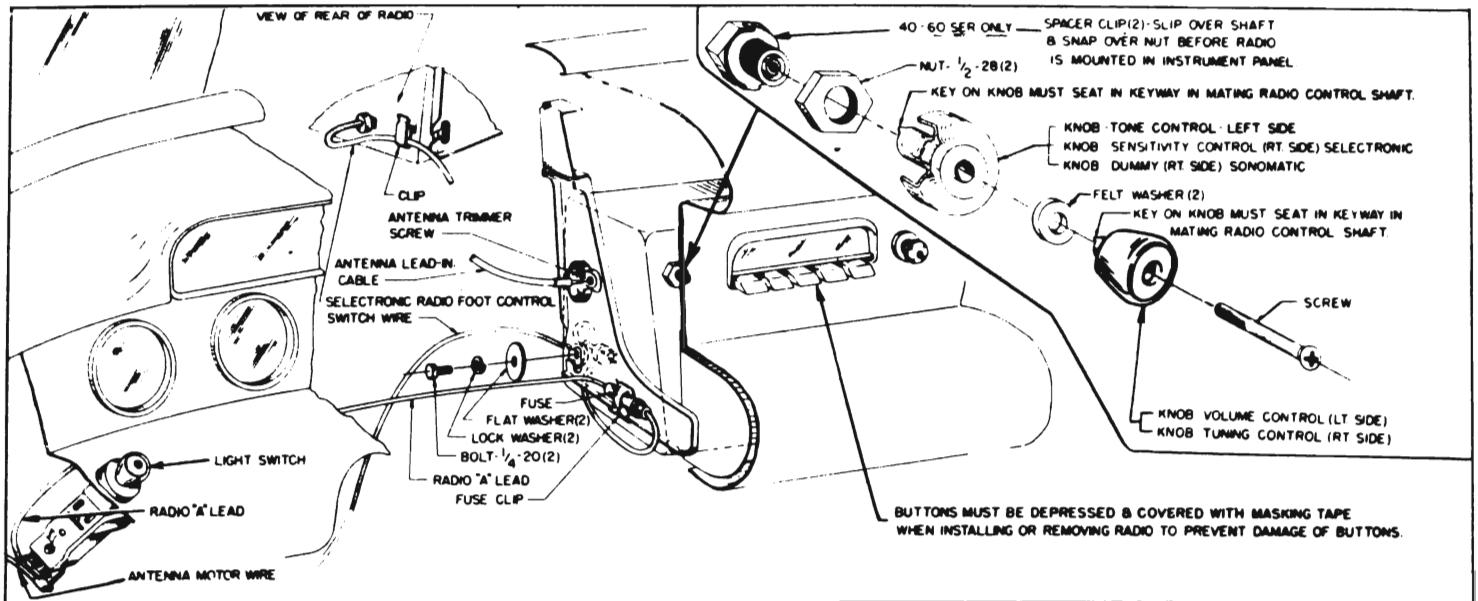

Figure 11-2—Receiver Installation
3. Insert a screwdriver through the opening in left side of receiver adjacent to the lead-in cable (fig. 11-2) and carefully turn the trimmer screw back and forth until a position is found that gives maximum volume.
3. On Series 40-60, install spacer clip over each control shaft bushing and snap clip over the nut. See figure 11-2.
6. Install tone control knob and volume control knob with felt washer on shaft to *left* of the dial. Install dummy knob (Sonomatic) or sensitivity knob (Selectronic) and tuning control knob with felt washer on shaft to *right* of dial. See figure 11-2.
fuse (par. 10-5, b) in fuse holder and connect "A" lead cable to lead at left lower corner of receiver. Install fuse holder in clip on support bracket. See figure 11-2.
9. If *Selectronic* foot control was disconnected or removed, reinstall with cable running up behind left edge of steering column pad. Plug cable into receiver and attach it to clip on receiver cover. See figure 11-2.